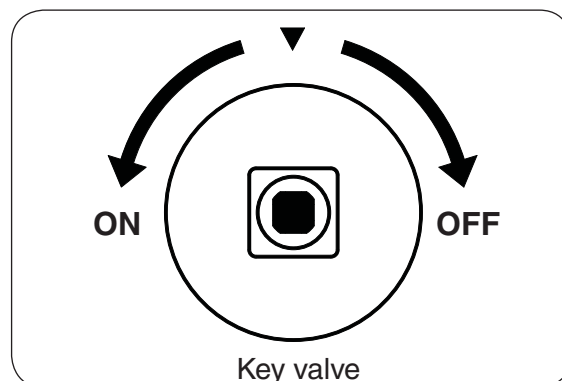

Fig. 19-2
4. **Once the match is burning and in position**, slowly turn the key valve counter-clockwise toward the **ON** position until it no longer rotates (see Fig. 19-2). Your burner should light.
To extinguish your gas burner, insert the key into the key valve and turn the valve clockwise toward the **OFF** position until it no longer rotates (see Fig. 19-2). Be sure the control knob is turned fully off to avoid any gas leakage.